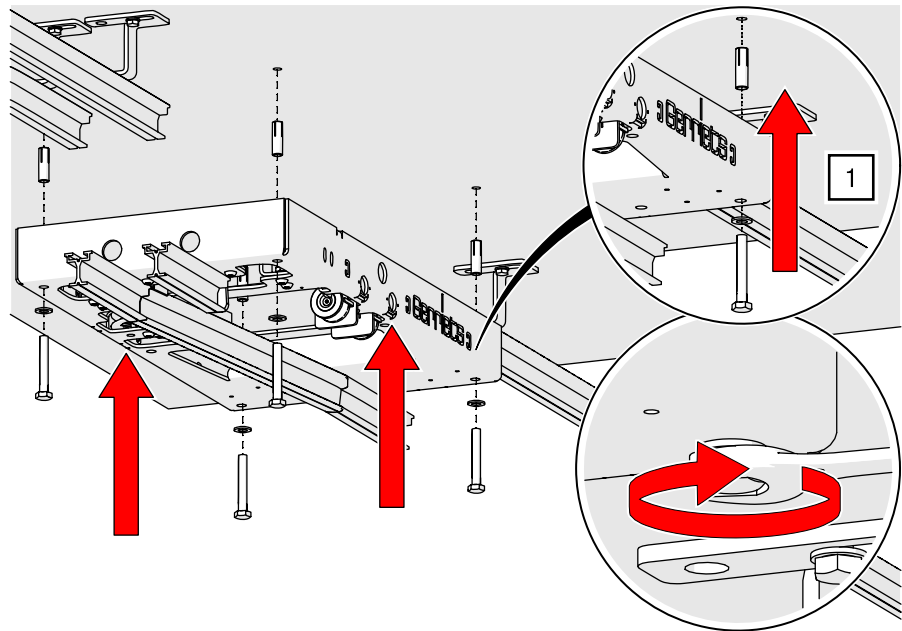

Fig. 132: Track switch – Ceiling mounting
1. Screw the track switch to the ceiling using the appropriate mounting material for the substrate (assembly according to the manufacturer's instructions; for example, concrete – see Fig. 132).